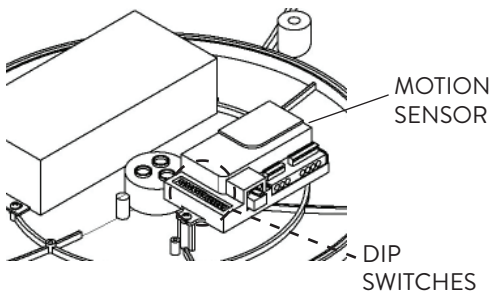

FIG. 7
- 2 The default settings can be changed by adjusting the DIP Switches on the Bi-Level Motion Control. Please refer to the table on this page and also directly on the Bi-Level Motion Control (Fig. 7).